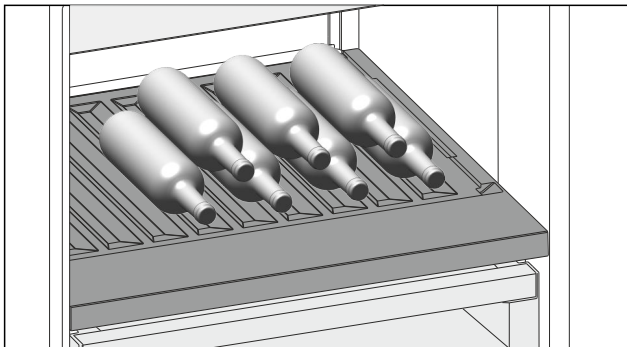

Fig. 99
- ▶ Place bottles in the back row with their bases against the back wall. (see Fig. 99)